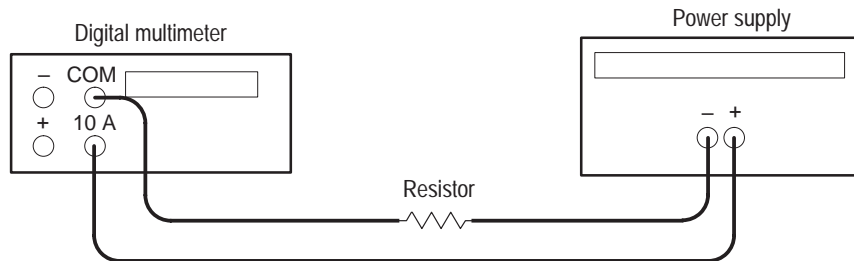

Figure 6: Constant current source test setup
2. Ensure that the power supply output is disabled. Connect the DMM and 27 Ω 100 W resistor to the front panel OUTPUT 1 terminals. See Figure 6 for details.
10. Ensure that the power supply output is disabled. Remove the leads from the front panel OUTPUT 1 terminals and connect them to the front panel OUTPUT 2 terminals. Maintain the equipment configuration and polarities shown in Figure 6.
2. Ensure that the power supply output is disabled. Connect the DMM and 2.2 Ω 50 W resistor to the front panel OUTPUT 3 terminals. See Figure 6 for details.